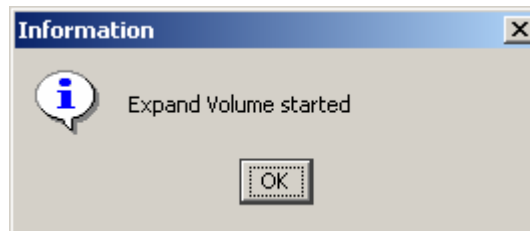

Figure 5-16 Expand Volume Message
5. When the Expand Volume started message appears (see Figure 5-16), click **OK**.